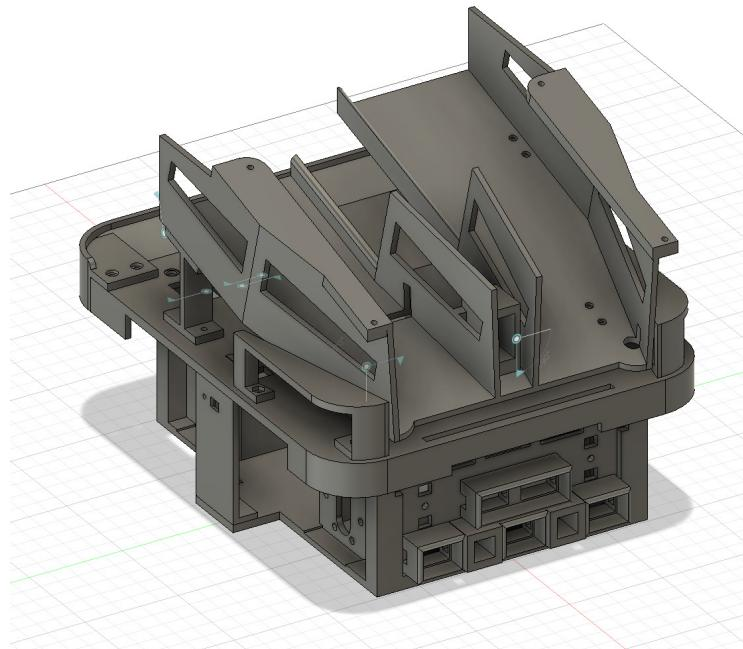

Figure 20: CAD design with added handles
- Noticed that our design is missing the handle required by the rules, therefore added two handles to both sides of the victim storage compartment as seen in Fig. 20